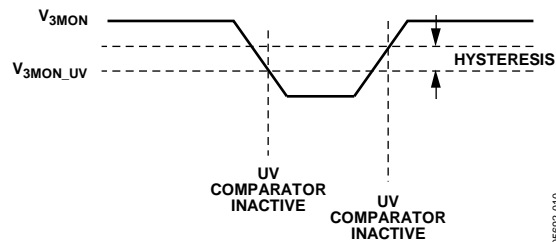

Figure 9.  $V_{3MON}$  Hysteresis
The  $V_{3MON}$  pin is monitored by a comparator to detect an undervoltage condition. It is designed with 1.5% hysteresis. When the  $V_{3MON}$  input drops below the programmed UV threshold, the comparator becomes active immediately, indicating that a UV condition has occurred. Due to hysteresis, the  $V_{3MON}$  input must be brought above the programmed UV threshold by 1.5% before the comparator becomes inactive, indicating that the UV condition has gone away (see Figure 9).
- When the external monitoring processor cannot issue the necessary WDI signal and advanced WDI mode is selected (see Figure 10 and Figure 9)